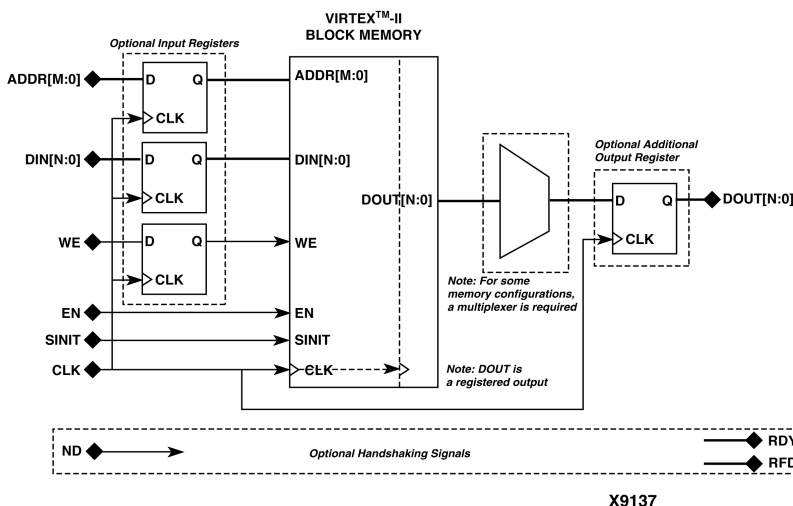

Figure 4: Single-Port Memory Block Diagram
- **Register Inputs:** Check this box to register ports DIN, ADDR, and WE prior to accessing block memory. See Figure 4.
- **Additional Output Pipe Stages:** Select “1” to enable an additional register on the output of the memory; select “0” to disable an additional register on the output of the memory. See Figure 4.